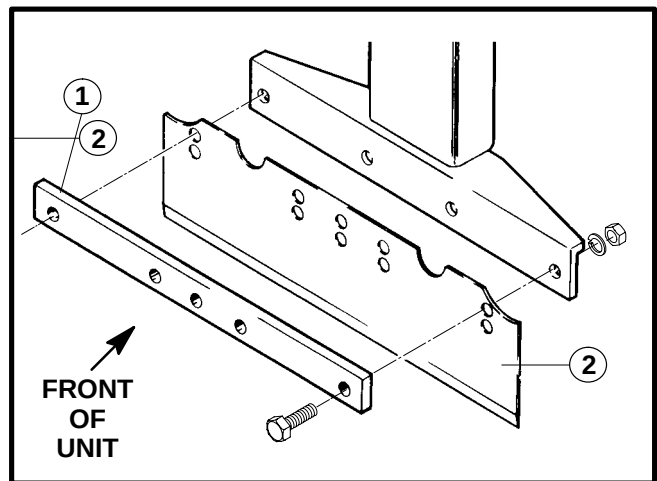

FIGURE 6
2. Attach the blade mount to cut-off blade using one (1) 3/8-16 x 1 1/8" screw, lockwasher and nut on each end (for units with 16" and 18" blades). For units with 12" blade go to Step 3. Bevel on cut-off blade must face the rear. See Figure 6.